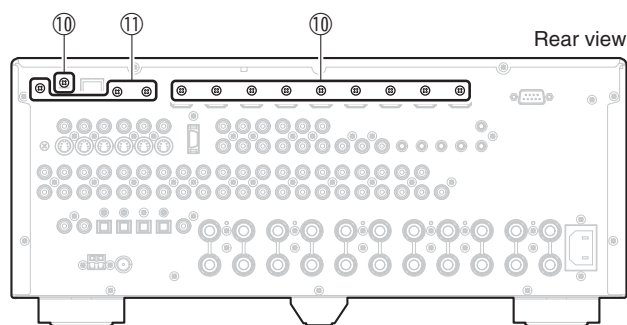

Fig. 3
- b. Remove 10 screws (⑩) and 3 screws (⑪). (Fig. 3)
- b. ⑩ネジ10本、⑪のネジ3本を外します。(Fig. 3)